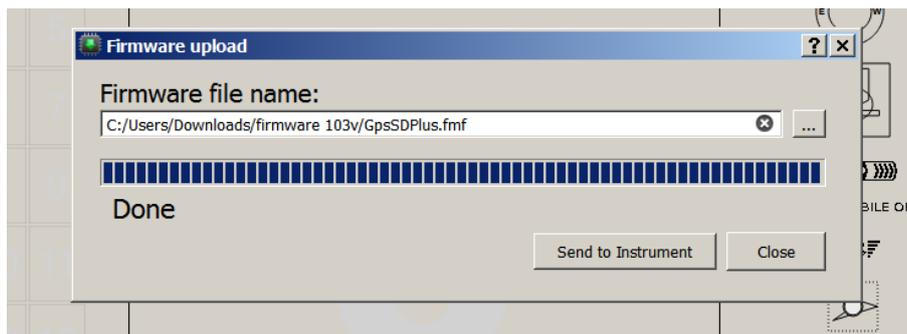

Figure 9.2: Firmware Update Done
6. When the process is finish the application shows a message saying *complete* (see Figure 9.2). Disconnect the USB cable and the LIVE SD will start to work.